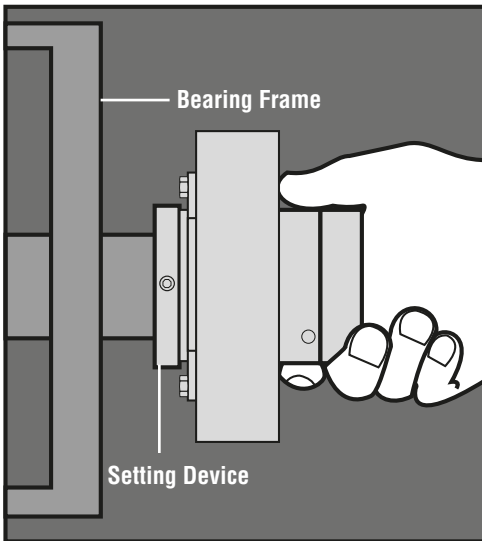

Figure 7
2.3 **Install the complete 84/85** cartridge assembly onto the shaft or sleeve with the setting devices near the bearing housing. See Figure 7.